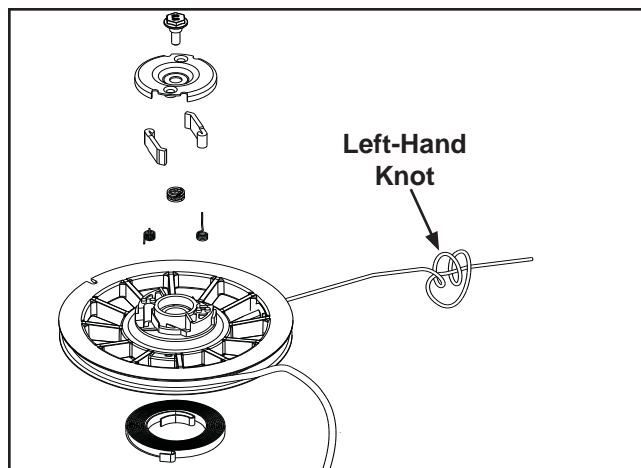

Figure 7-4. Left-hand Knot.
6. Tie a double left-hand knot in one end of the new rope. See Figure 7-4.